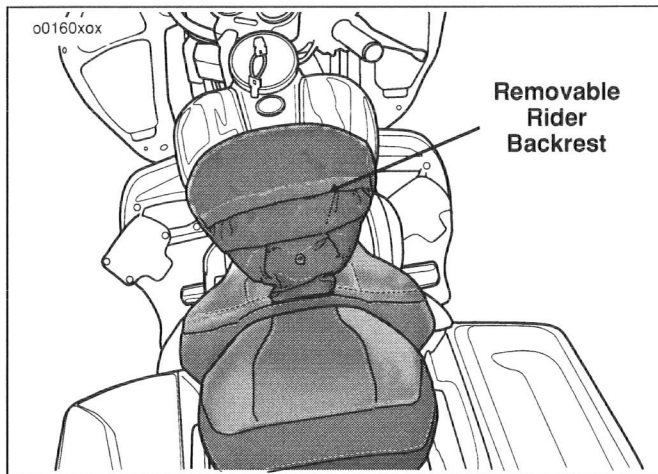

Figure 29. Removable Backrest
1. See Figure 29. Spread the seat covering at the base of the backrest exposing the two spring loaded support arms.